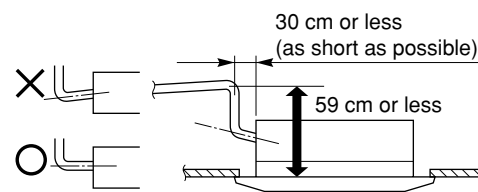

Fig. 3-28
- If it is necessary to increase the height of the drain pipe, the pipe can be raised a maximum of 59 cm from the bottom of the ceiling. Do not raise it any higher than 59 cm, as this could result in water leaks. (Fig. 3-28)